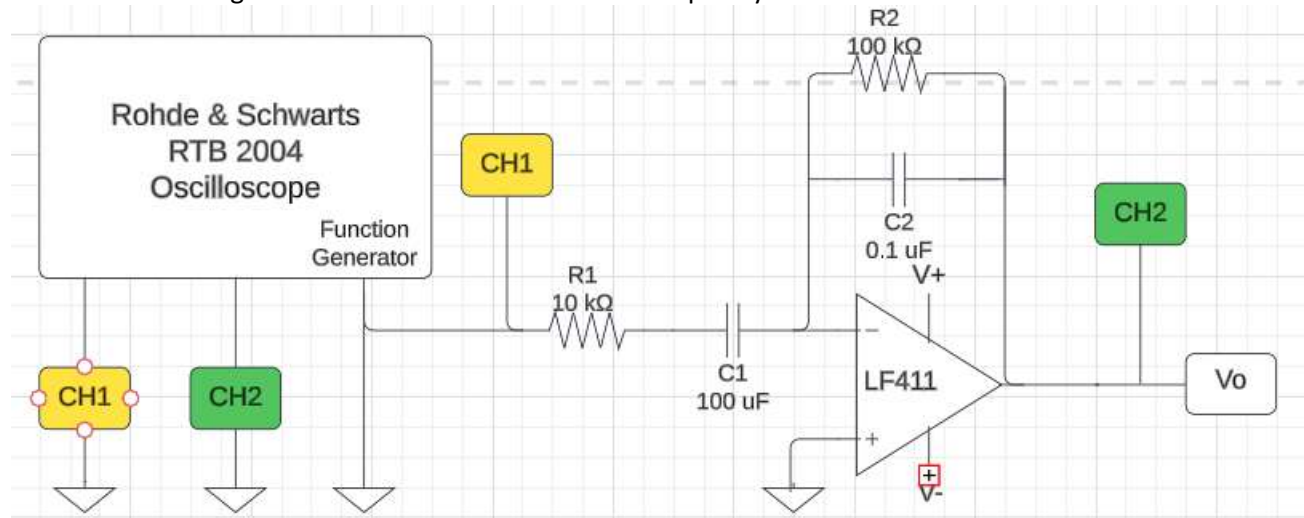

Figure 3: Circuit schematic of active band pass filter with an LF411 with recommended component values
3. Repeat step 1-2 for the active bandpass filter in Figure 3.